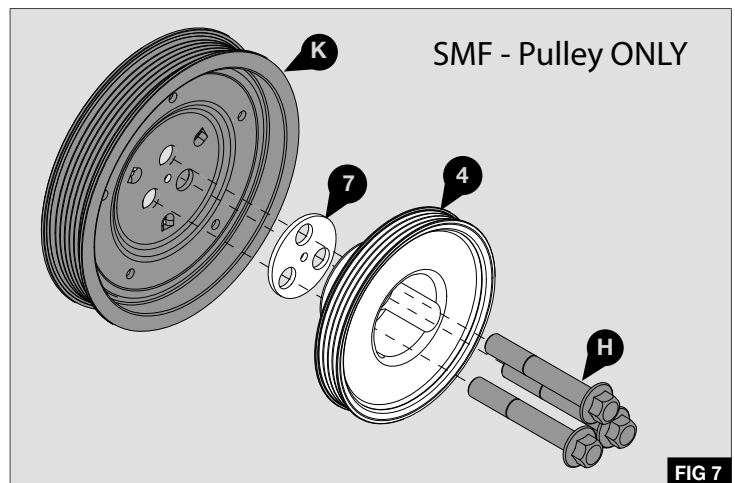

FIG 7
4. Assemble the supplied crankshaft pulley (4) and spacer (7) to the original crankshaft damper type (K) and fix to the original position using the original bolts (H) - Fig 7